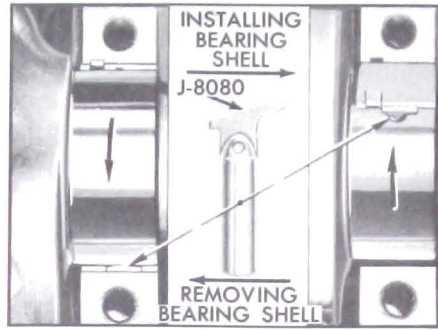

Figure 2-30—Removing and Installing Crankshaft Bearing Upper Shell
2. Remove upper bearing shell by inserting Bearing Shell Remover and Installer J-8080 in oil hole in crankshaft, then slowly turning crankshaft so that the tool rotates the shell out of place by pushing against the end without the tang. See Figure 2-30. **CAUTION:** When turning crankshaft with rear bearing cap removed hold oil seal to prevent it from rotating out of position in crankcase.